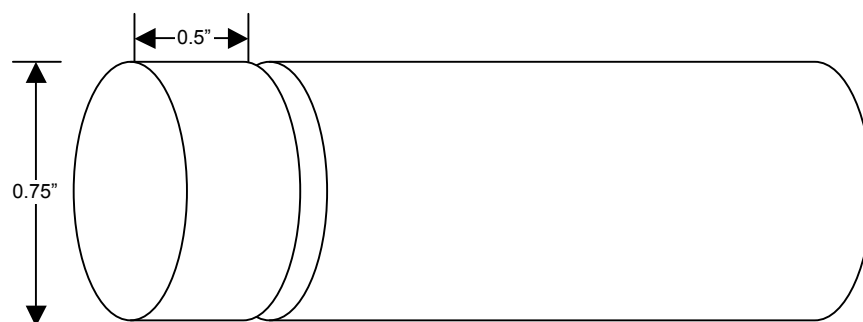

Figure 4: *Cylinder of Lucite (or other plastic) showing dimensions for cut.*
- 2. Cut the plastic along the marks.** See Figure 4 for illustration.